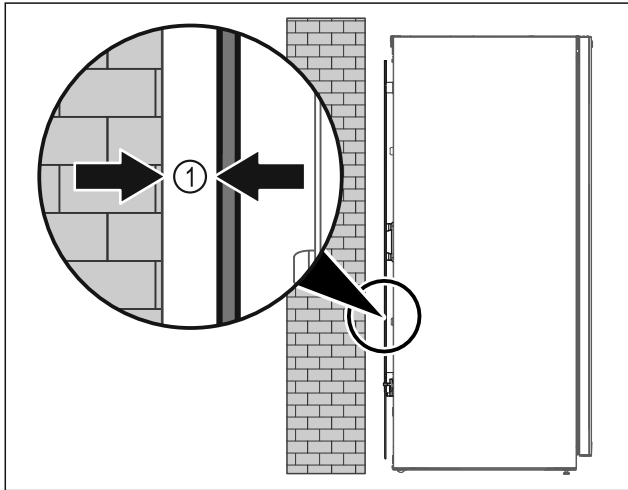

Fig. 10
► Set up the appliance either free-standing or directly against a wall at a minimum distance of 5 mm Fig. 10 (1).